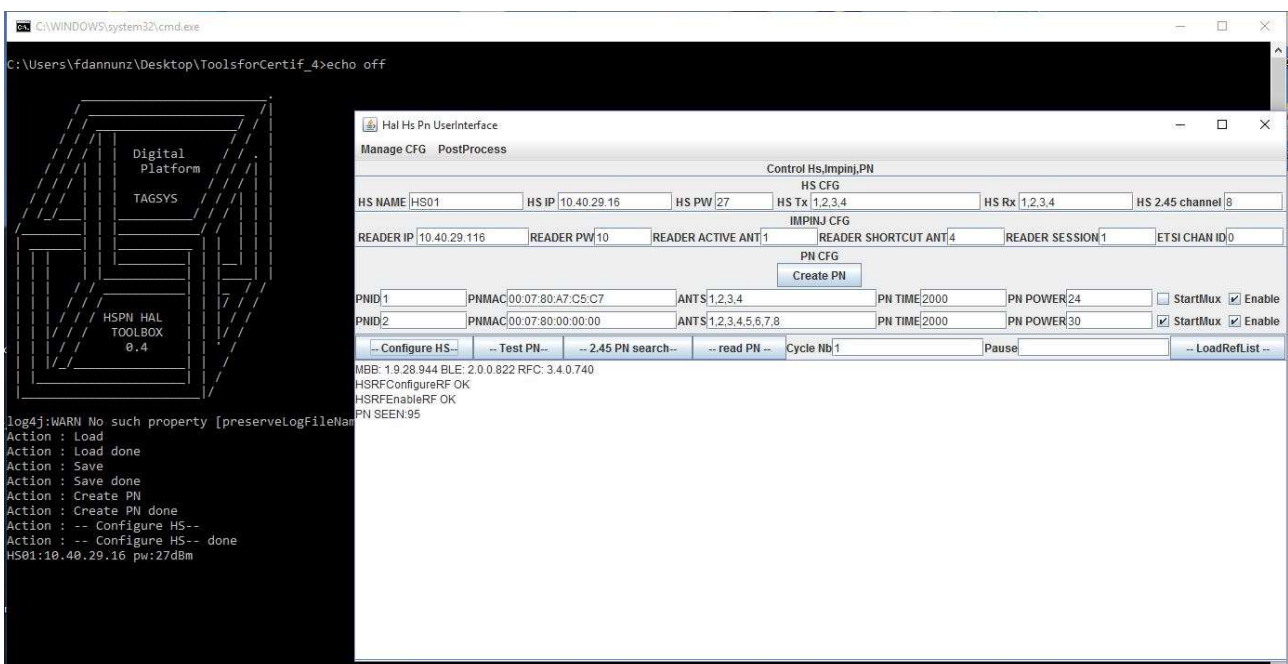

Figure 16 : Main Windows after entering Hot Spot parameters
Figure 16 shows the screen just after HS Configuration completion.
- ANTS** enter here the list of the RF output channel numbers connected to an antenna. For ease of installation, N antennas are connected starting from 1 at the top of the PN. In **Figure 16**, only the first 4 antennas are connected to the PN so only the first 4 channels should be connected.